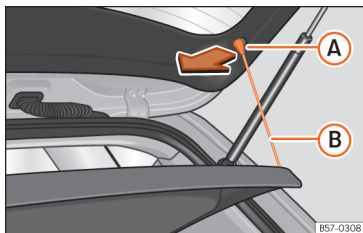

Fig. 126 In the luggage compartment: removing and fitting the shelf.
- Detach the cord loops »» Fig. 126 B from their hooks A.
- Hook the loops »» Fig. 126 B to the rear lid.